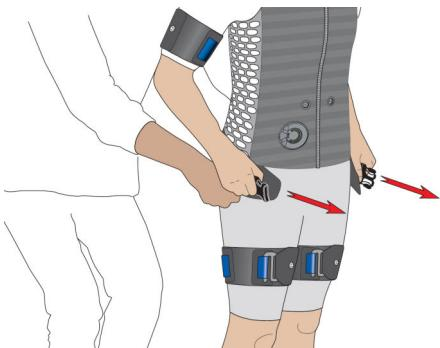

Fig. 50: Fastening the i-body® belt
**22.** ► Securely fasten the i-body® belt (Fig. 50).